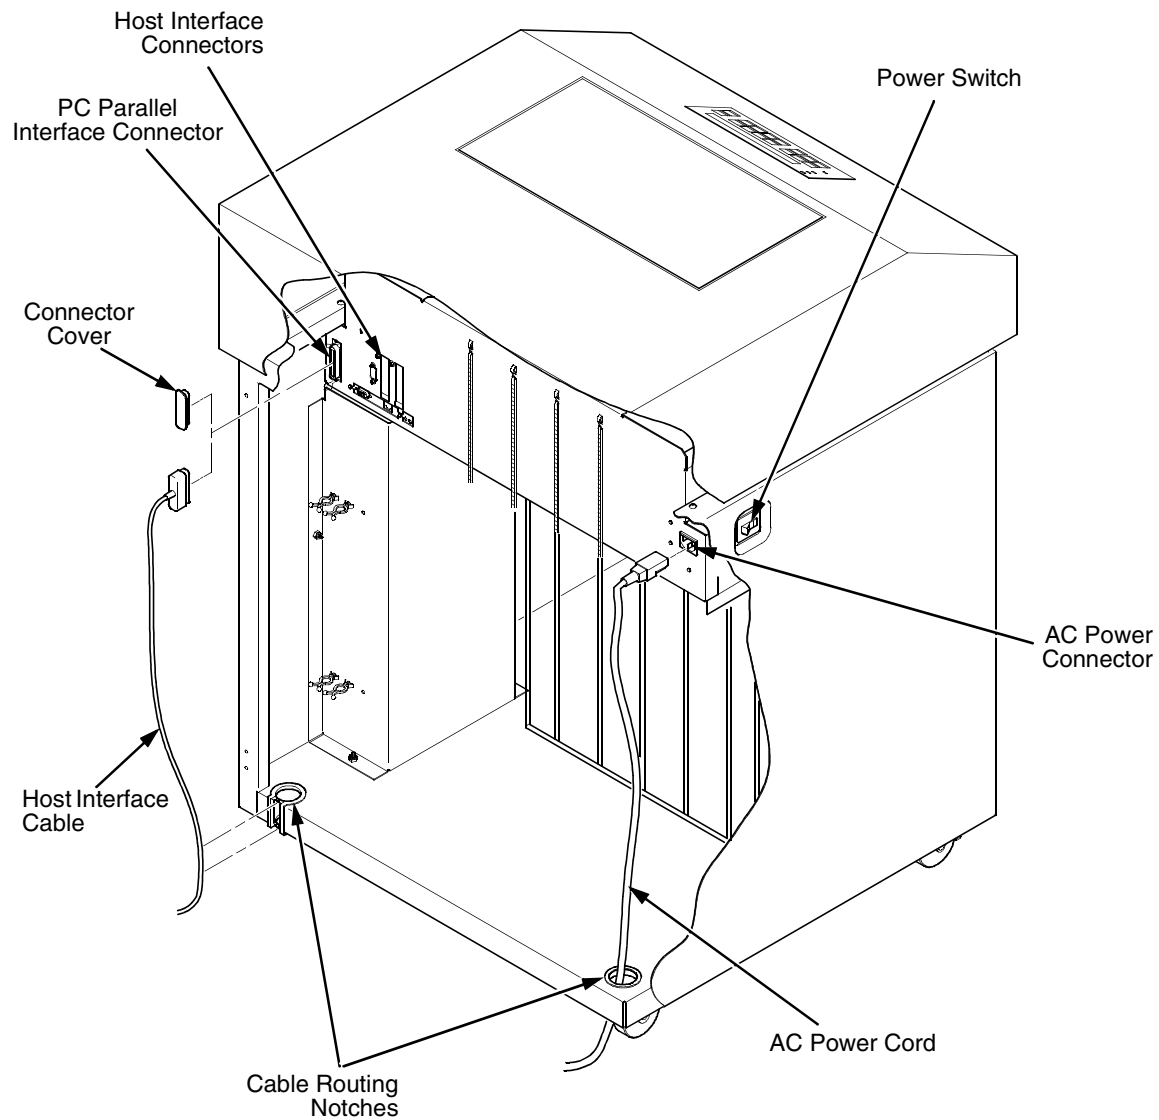
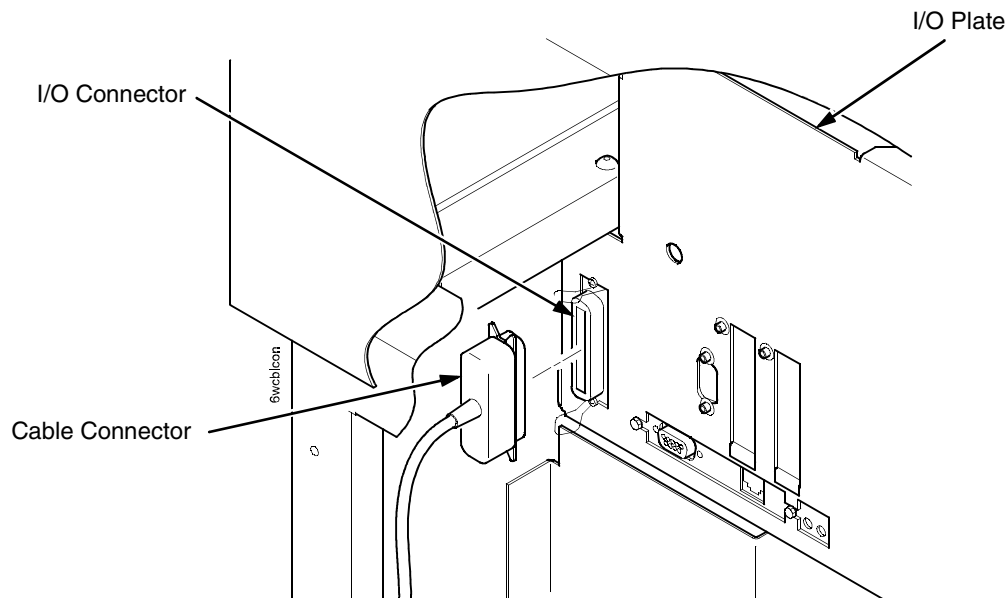

Figure 18. Interface and Power Cable Connections, Cabinet Models
Figure 23. Cable Connector Attachment
1. Verify that the voltage source at the printer site conforms to the requirements specified on page 19. Make sure that the printer power switch is set to Off. See Figure 18.
3. Referring to Figure 18 through Figure 23, connect the customer-supplied interface cable from the host computer to the appropriate printer interface connector.
4. Thread the power cable connector up through the notch in the lower right back corner of the cabinet (see Figure 18). Plug the power cord into the printer AC power connector, then into the AC power outlet.
7. Secure the cable to the printer using the two cable standoffs. See Figure 18.